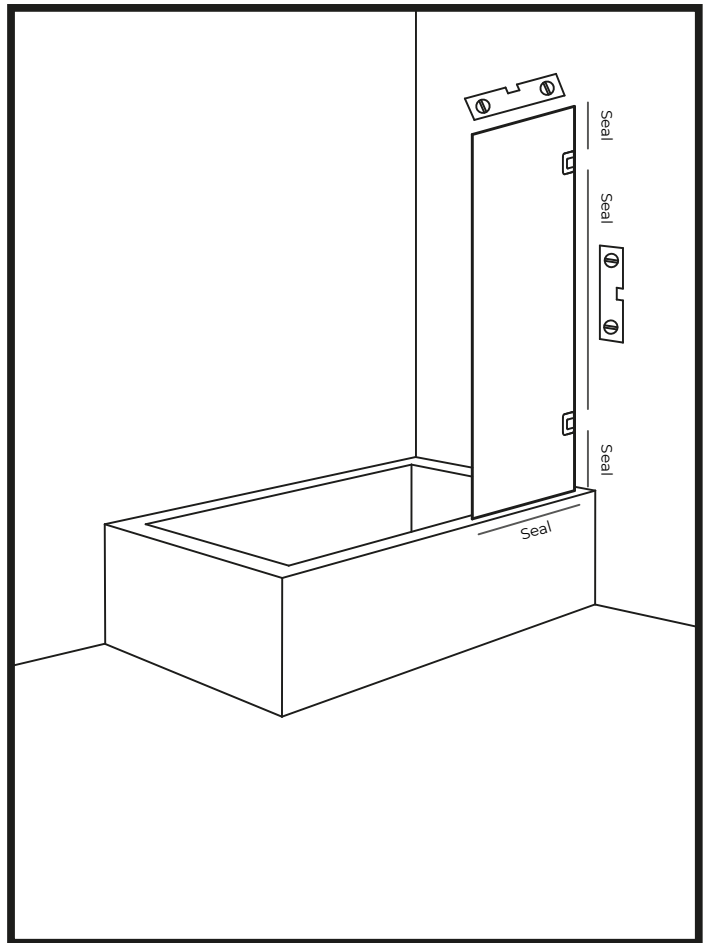

Figure 5
9. Install the brush seal included in the kit on the bottom edge of the glass. (Fig 5)